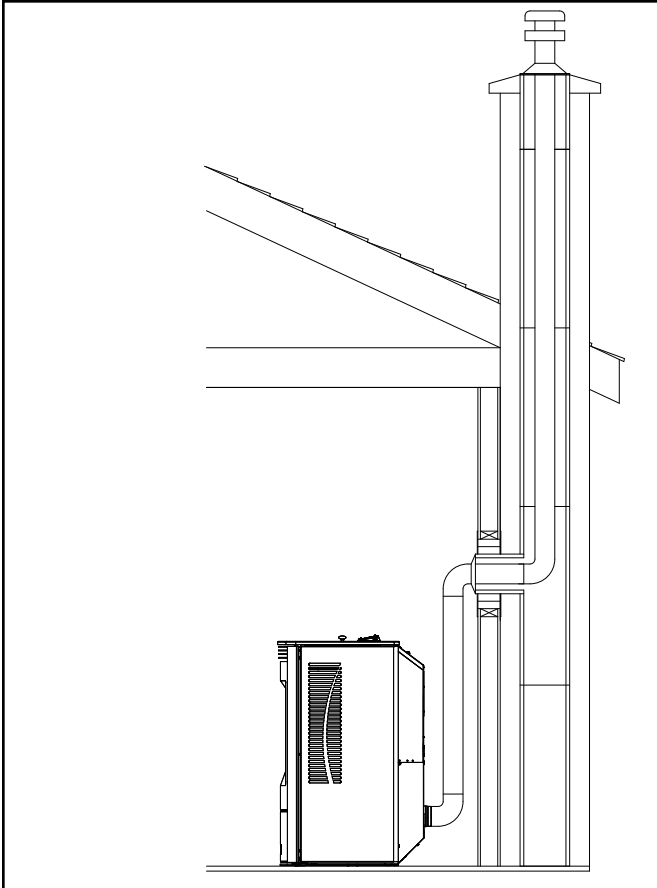

Figure 4.6
**#6 Installing into an existing chimney (Figure 4.6) w/Full liner**